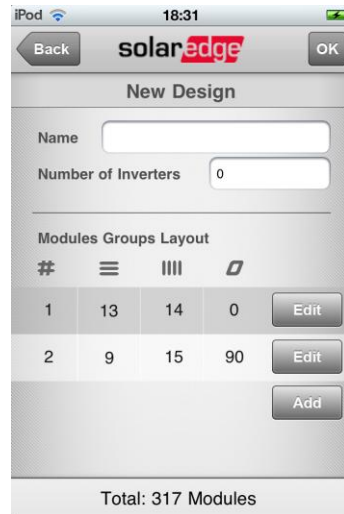

Figure 8: Module Groups Added to Design
- 1** In the *New Design* screen (see Figure 8), tap **Edit** near the group that you want to modify.